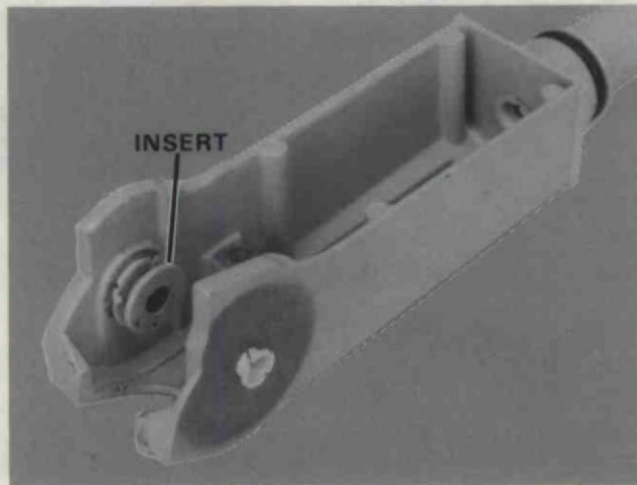

Figure 5. Removing Insert.
- D. Remove insert and two (2) nylon bearings from steering handle. Figure 5.